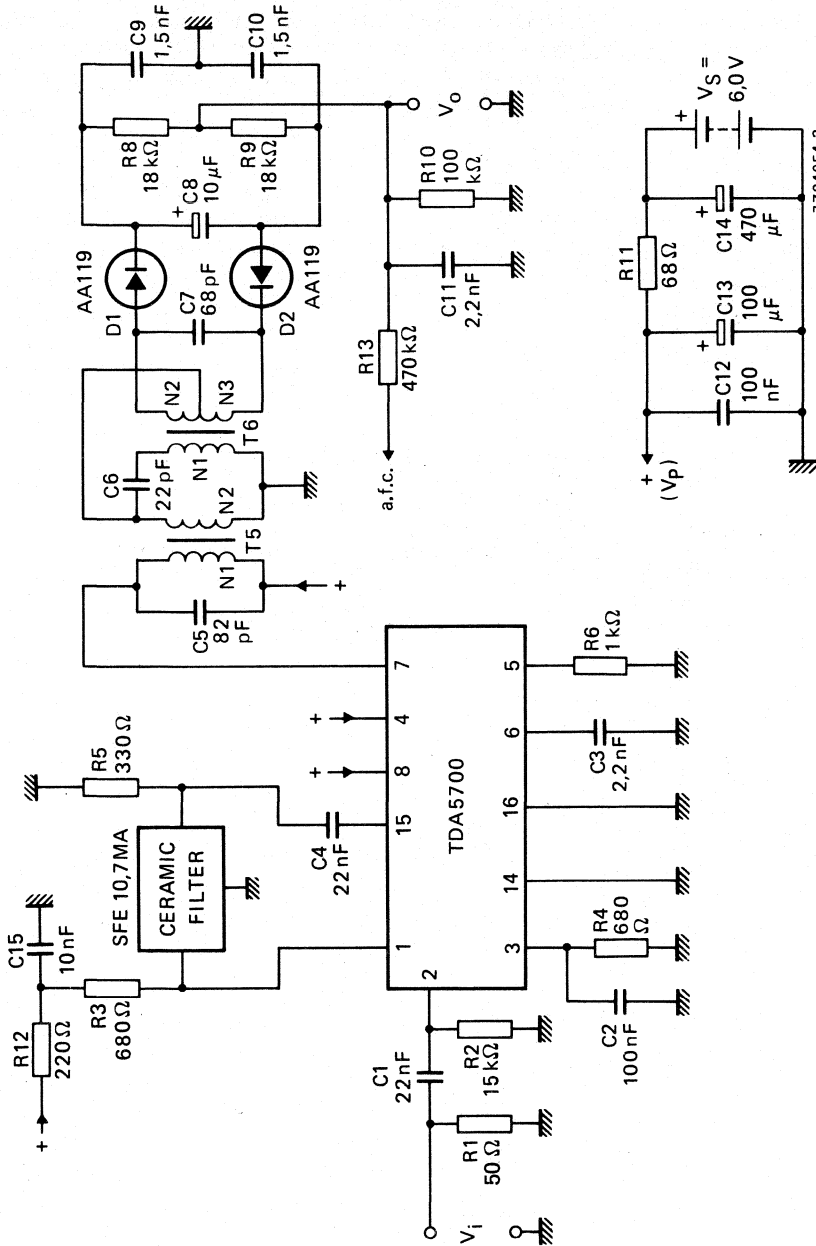

Fig. 4 Test circuit f.m. performance.
**F.M. performance** (in test circuit Fig. 4)
F.M. — i.f. coils (Figs 4 and 5)